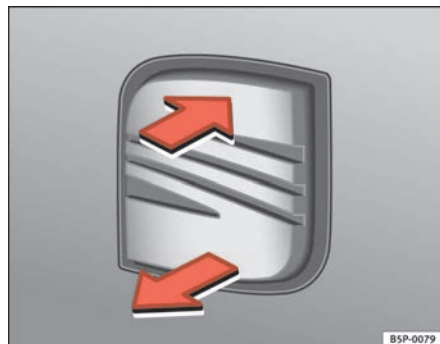

Fig. 66 Boot lid: opening from the outside
- Pull on the release lever and lift the tailgate ⇒ fig. 66. The tailgate will then open.